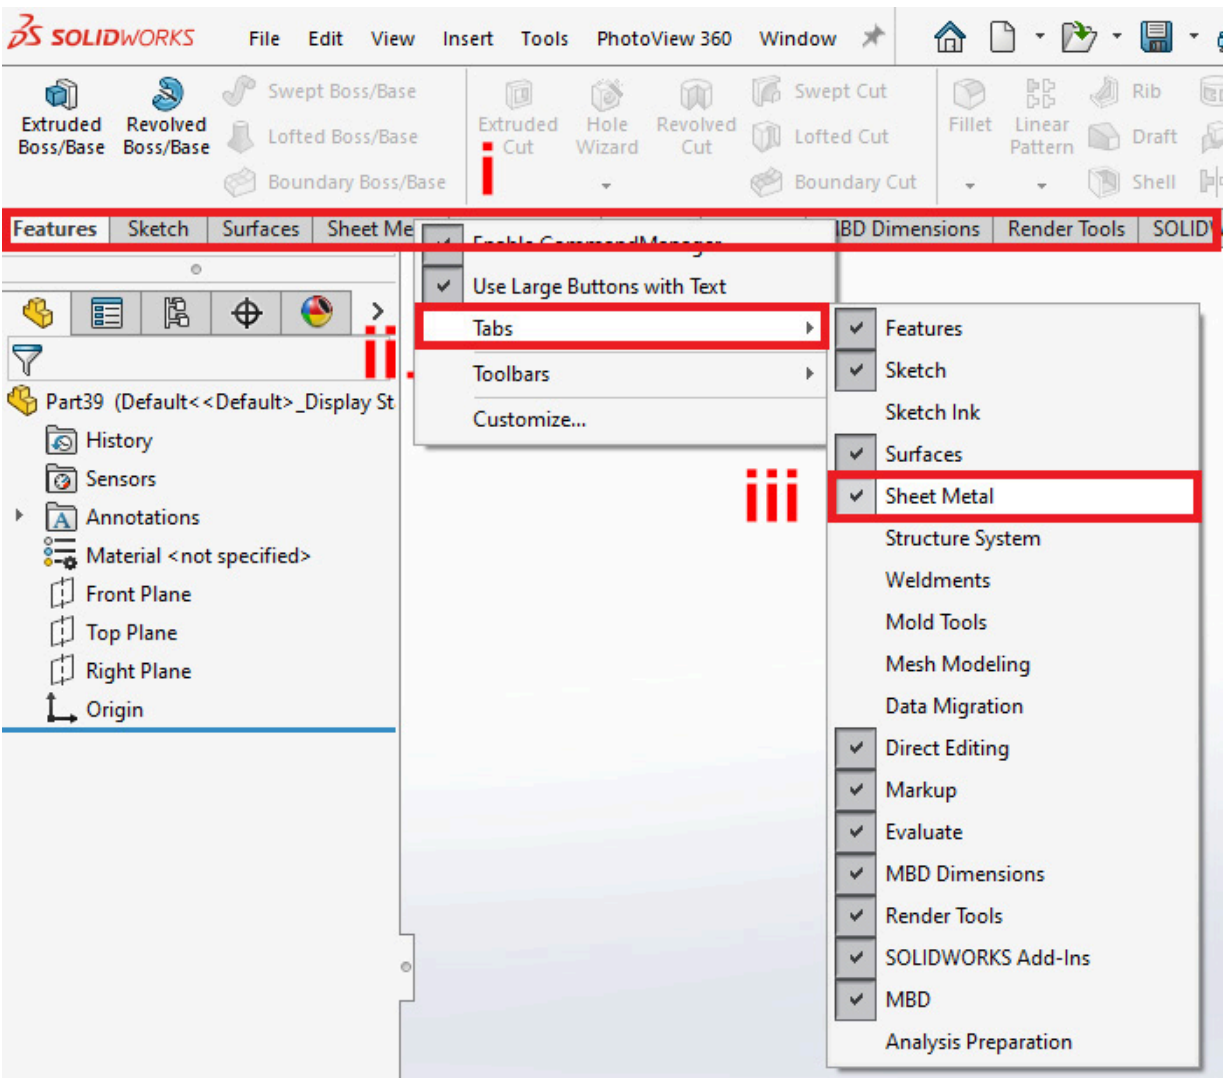

Figure 1.4: Adding the Sheet Metal tab to the Command Manager
1. From within a SolidWorks *part* document, right-click on any of the existing tabs, or in any empty space, on the **Command Manager** (labeled **i** in *Figure 1.4*).
2. Select the **Tabs** sub-option (labeled **ii** in *Figure 1.4*) and ensure that there is a check mark next to the **Sheet Metal** option (labeled **iii** in *Figure 1.4*).
1. The **Sheet Metal** toolbar can be added in a similar way to the tab. First, right-click on any of the existing tabs, or in an empty space, on the **Command Manager** (labeled **i** in *Figure 1.4*).